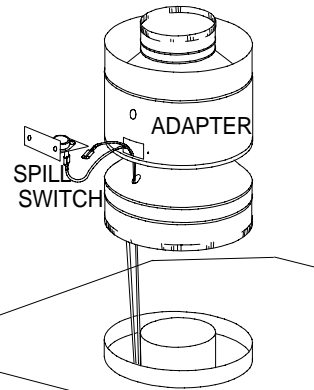

FIG. 23
1. Remove and discard the two combustion air cover plates and gaskets located on the rear panel of the unit. **SEE FIGURE 23.**